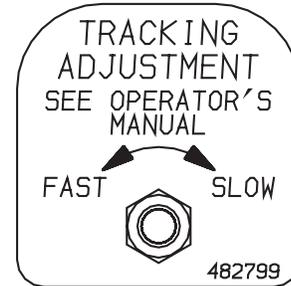

Figure 14. Tracking Adjustment
3. If the machine pulls to one side. Stop the mower by placing the steering control levers in the neutral position. Using the adjustment wrench located on the left side of the machine, turn the tracking adjustment nut on the slower side counter clockwise until the machine tracks straight. (See Figure 14).